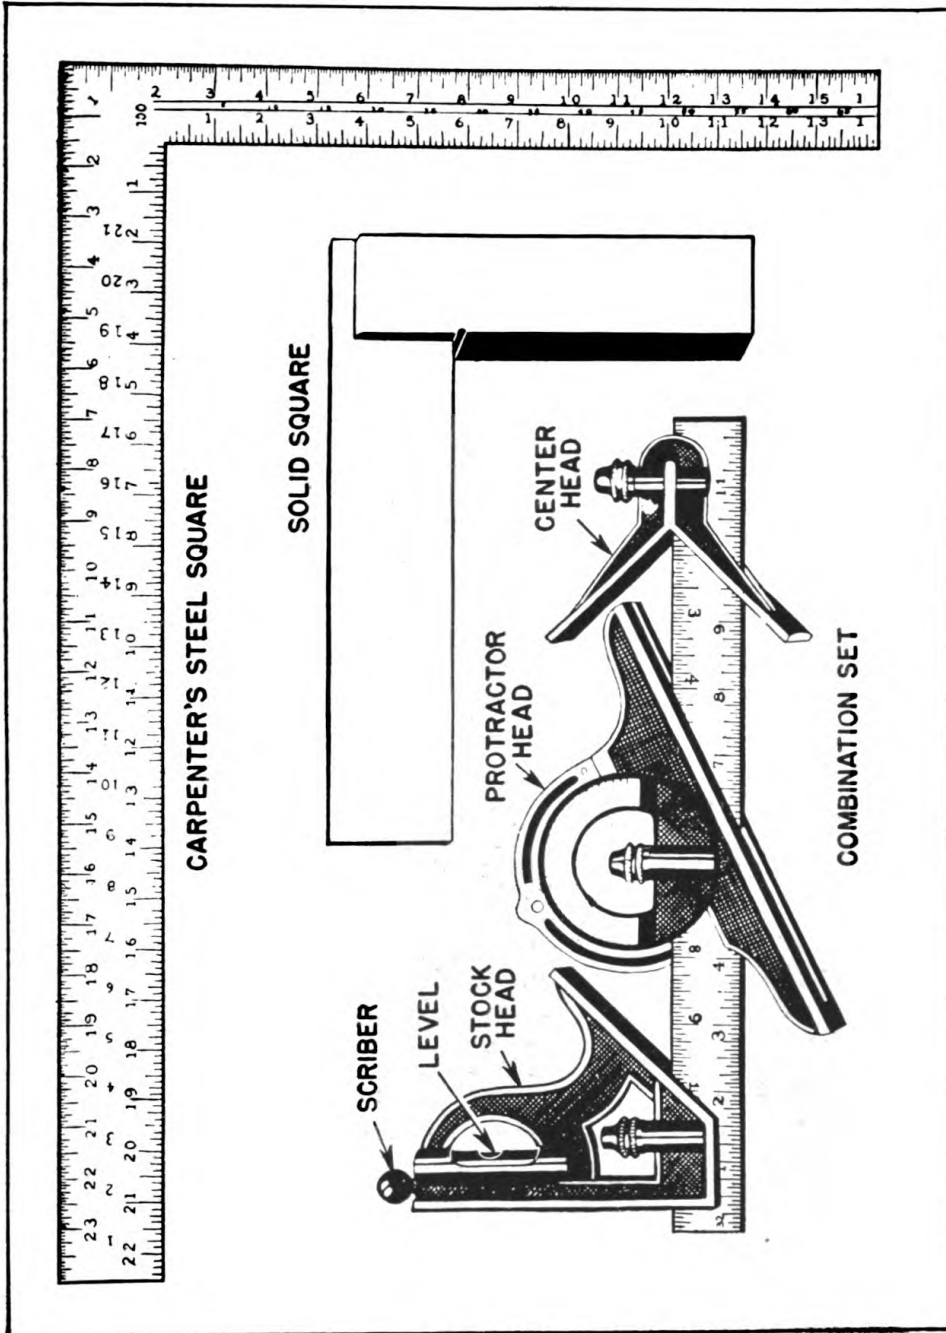
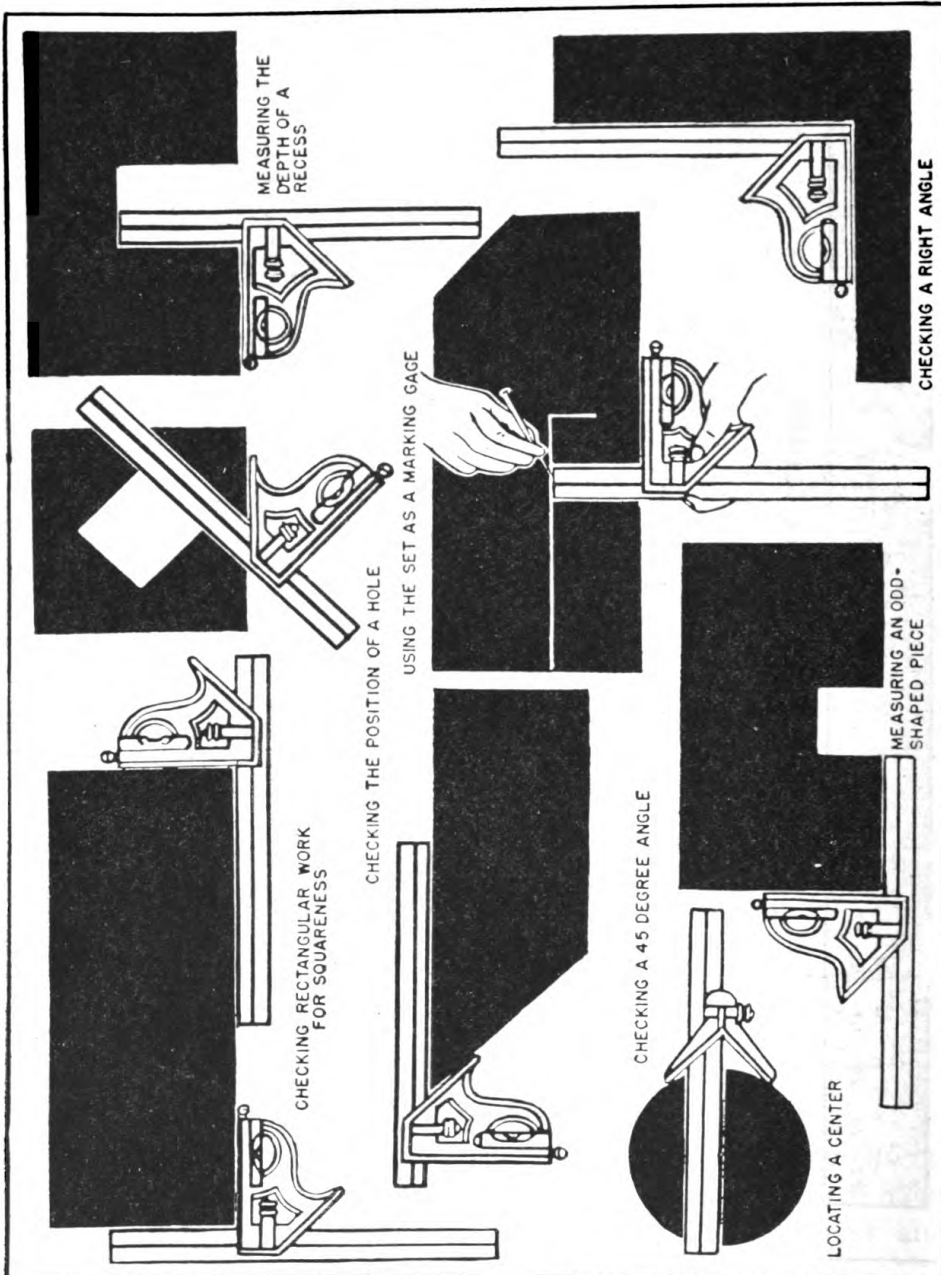

FIGURE 85.—Types of squares.
FIGURE 86.—Applications of combination set.
25. Squares.—*a. General.*—Squares are used for measuring angles or locating and laying out centers on round work. Figure 85 shows the commonly used types. The solid square is convenient and accurate for measuring right angles only; the carpenter's steel square
b. Use of combination set.—The illustration of the combination set in figure 85 shows it equipped with a protractor head and a center head, as well as the stock 90° and 45° head. These accessories are readily removable, so that the one needed can be quickly attached to the blade. A number of common applications of the stock and center heads are shown in figure 86. The protractor head is used for measuring angles other than 45° or 90°, but is less com-